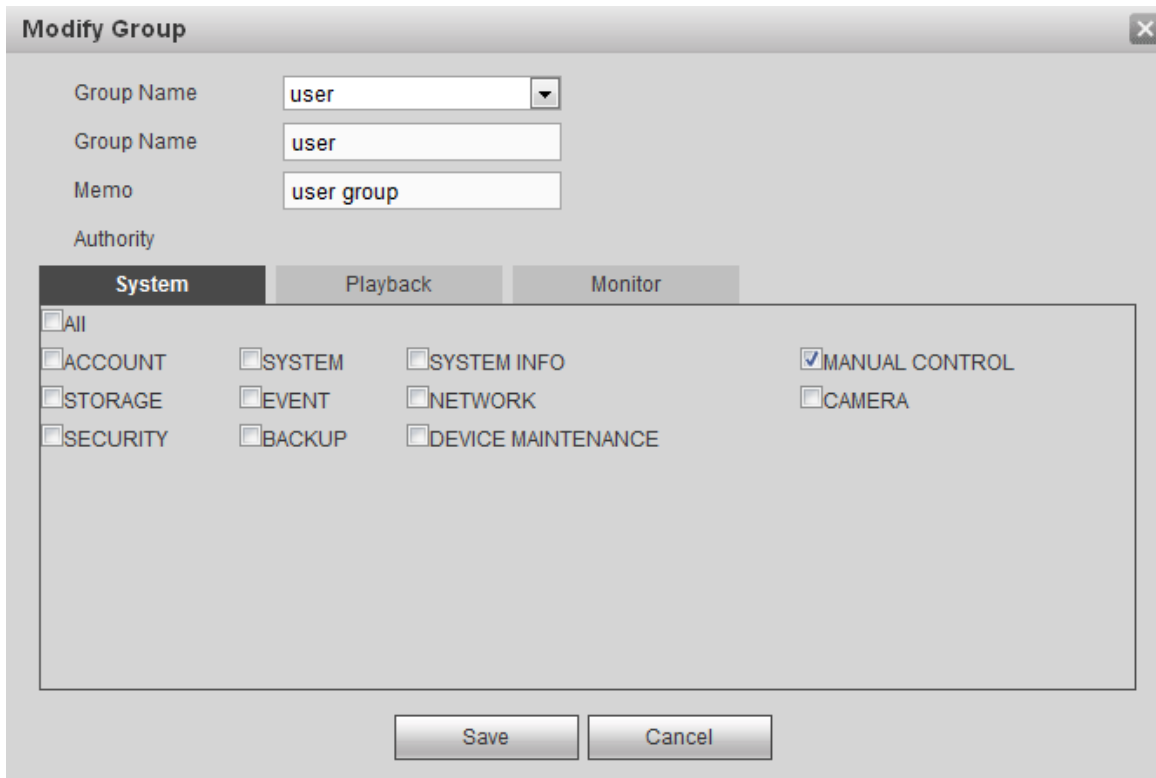

Figure 4-124
Step 1 Select a group and then click . See Figure 4-124.